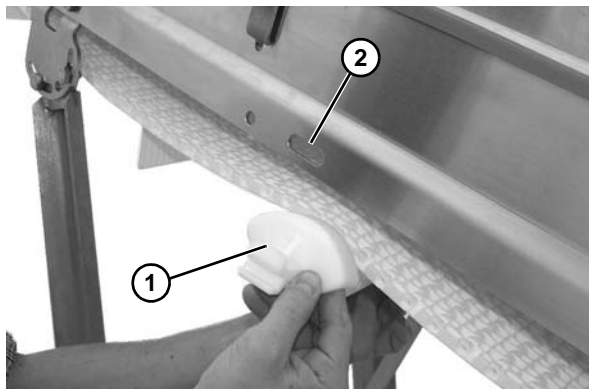

Figure 19
1. Install belt return (**Figure 19, item 1**) into slotted frame hole (**Figure 19, item 2**).